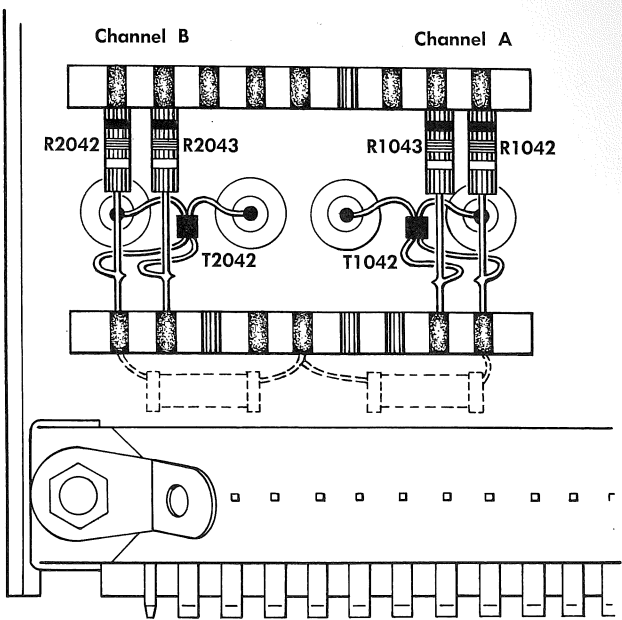

Fig. 5-11. Gate generator parts location for adjusting channel time coincidence.
- b. Remove the Type 453 Gate Generator subchassis and locate the parts displayed in Fig. 5-11.